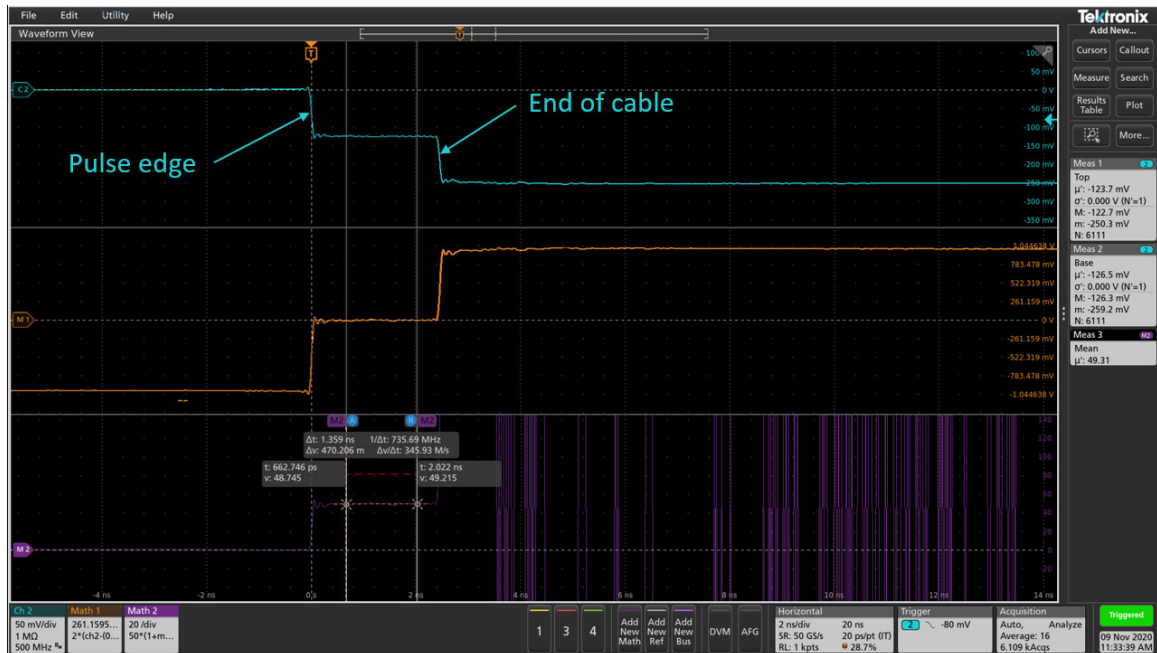

Fig. 8 - TDR Pulse Edge and End of Cable Edge.
When using a TDR, it is important to set your reference point. If you are using an SMA connection between the TDR and the DUT, then it is important to understand where to reference (in time) on the scope where your DUT measurement begins. You can find the pulse launch by setting the trigger to the pulse channel, which is CH2, as shown by Fig. 8.
1. Connect only your 50Ω cable to the TDR and note where the far edge starts to change on the reflection coefficient and impedance traces on the oscilloscope. An example is shown in Figure 8 below.